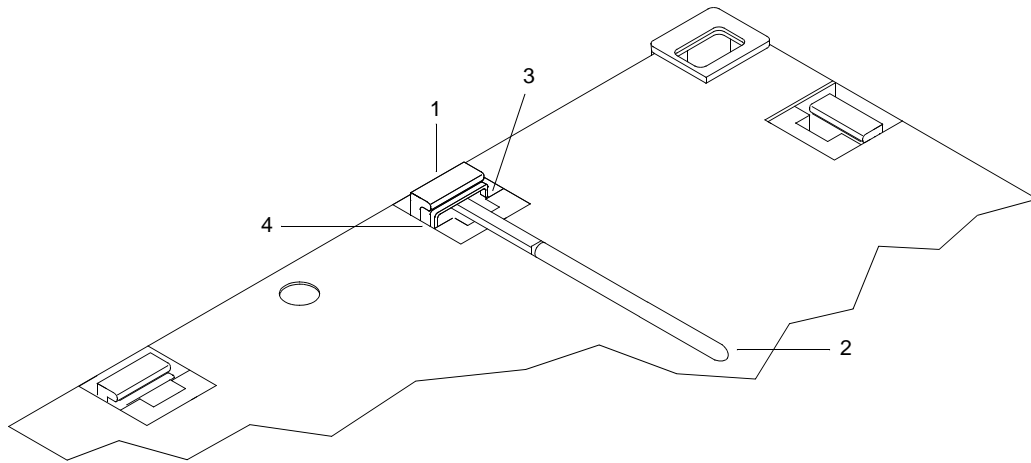
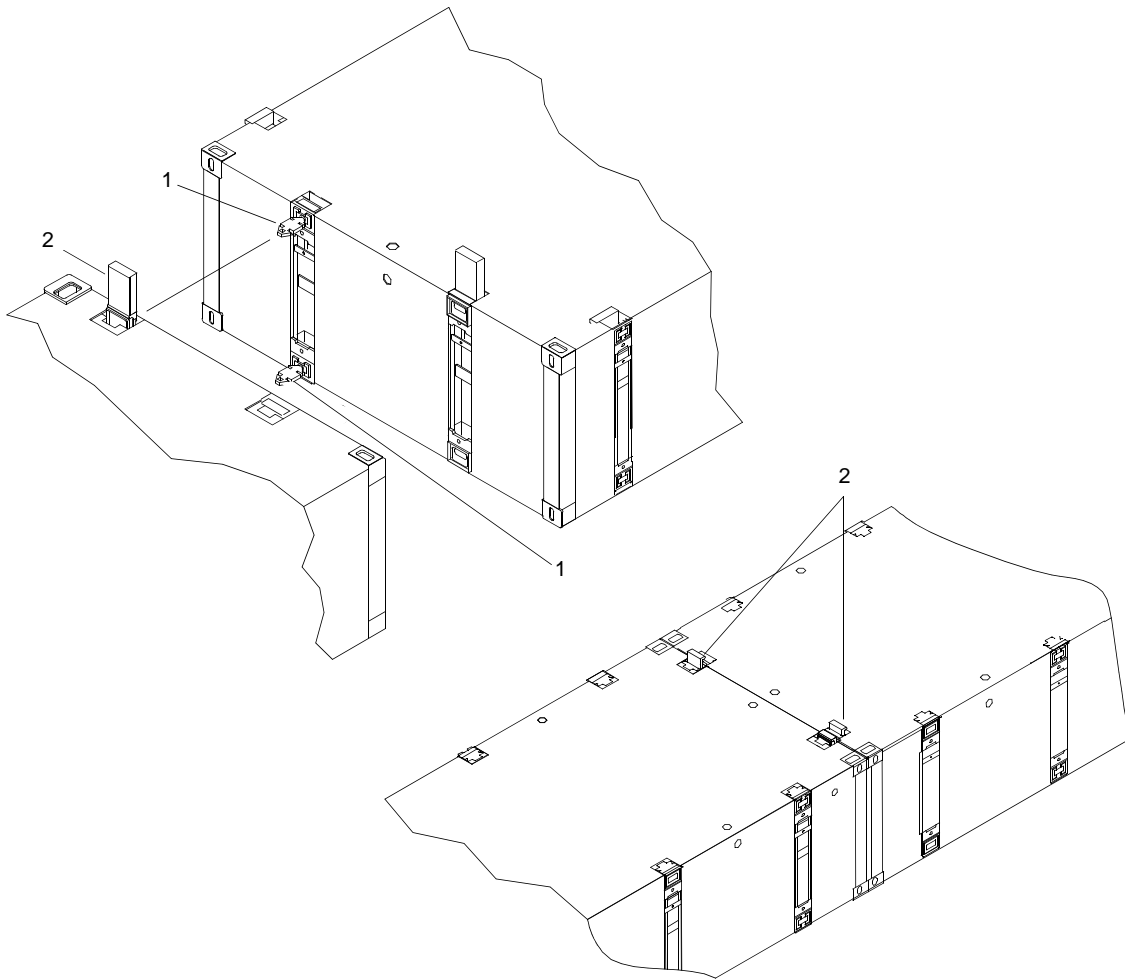

Figure 8. Raising the Male Guillotine Connectors
Figure 9. Connecting the Modules
**Figure 9. VHF/FM Handheld Transceiver Battery Charger Operator Controls and Indicators.****Table 9. VHF/FM Handheld Transceiver Battery Charger Operator Controls and Indicators.**
2. Raise male guillotine connector (figure 8, item 1).
- a. Insert crowbar (figure 8, item 2) behind spring bar (figure 8, item 3) under male guillotine connector (figure 8, item 1).
- b. Rotate crowbar (figure 8, item 2) downward to clear spring bar (figure 8, item 3) from deck overhangs (figure 8, item 4) and allow male guillotine connector (figure 8, item 1) to move upward.
- c. Raise male guillotine connectors (figure 8, item 1) approximately 6 in. until it stops, allowing male connector pins to fully extend.
- d. Remove crowbar (figure 8, item 2).
- e. Drive male guillotine connector (figure 8, item 1) back into stowed position using a sledgehammer to secure the male connector pins (figure 9, item 1) in the fully extended position.
3. Position the modules to be connected so male connector pins (figure 9, item 1) and female guillotine connectors (figure 9, item 2) are aligned.
4. Using a sledgehammer, drive each female guillotine connector (figure 9, item 2) down.
5. If female guillotine connector (figure 9, item 2) does not close completely, lift female guillotine connector (figure 9, item 2) completely.
6. Raise male guillotine connector (figure 8, item 1) two to three inches to allow play in male connector pin (figure 9, item 1).
8. Using a sledgehammer, drive female guillotine connector (figure 9, item 2) down.
9. Using a sledgehammer, drive male guillotine connector (figure 8, item 1) down.